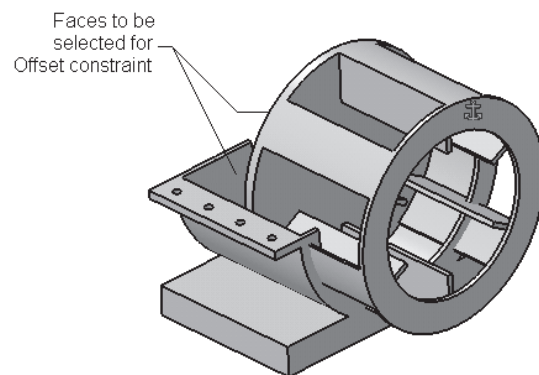

Figure 11-72 Faces to be selected for applying the **Offset** constraint
4. Apply the **Offset** constraint between the faces shown in Figure 11-72. Enter **0.635** as the value in the **Offset** spinner and make sure that the **Orientation** is set to **Opposite** in the **Constraint Properties** dialog box. Update the model to bring the blower to its proper position.